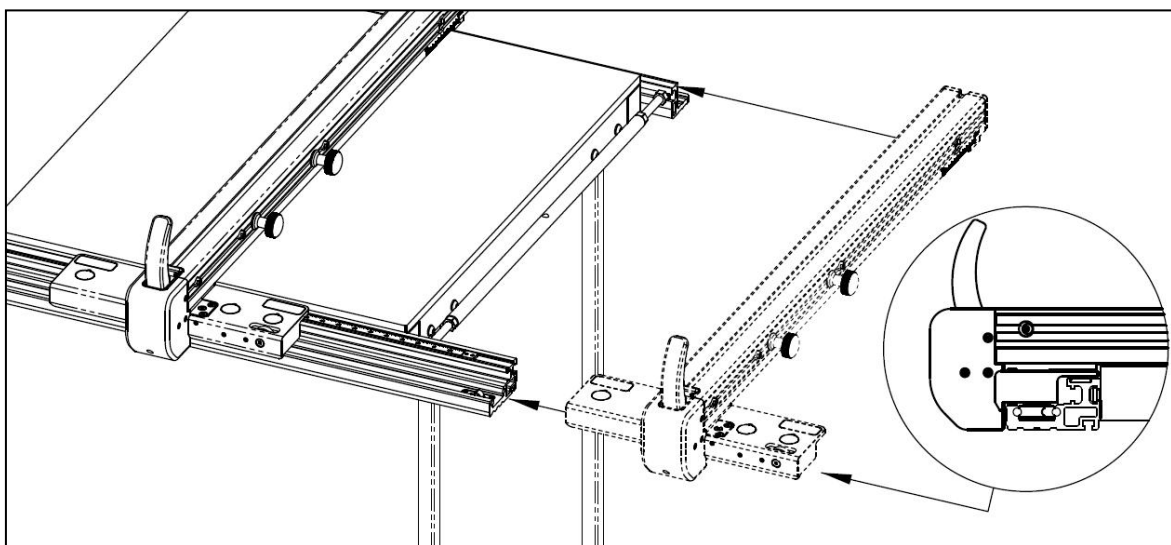

Fig. 6-19
3. Insert the fence assembly (C) into the guide rail, following the illustration in Fig. 6-19. Ensure that the locking handle is lifted (disengaged) to facilitate sliding the fence onto the rails, with the bearings on the fence aligning with the steel rods on the front rail.